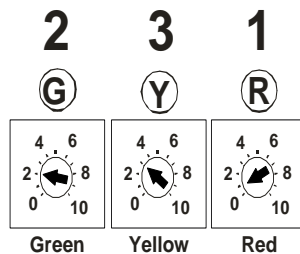

FIGURE 7
12. Before reinstalling the fuel tank bolts and the seat, verify your connections. Remove the door from the Fi2000 box to expose the LED's. The pot settings on the Fi2000 must be set to match the proper intake and exhaust configuration, Refer to Figure 7 and the **Advanced Tuning** section below to determine the proper configuration. Verify the wire connections by (1) turning the ignition on, prior to starting, and see if all three LED's are on steady. If you have no light, your ground connection (BLACK wire) has not made proper contact or the injector connections are not complete. (2) After achieving a steady light from all three LED's, start the motorcycle, wait 15 seconds and let it idle, the green light should now be the only LED on. If all three LED's are still on after start up verify you have attached the injector connectors correctly. Reattach the door when finished. **Note:** Make sure the ignition is turned off before changing any connection.